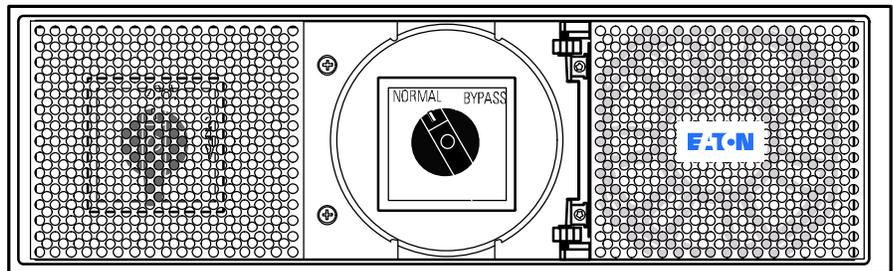

Figure 8. Resetting the Switch to UPS (Normal)
- If the bypass switch is set on Bypass, turn the bypass switch to the UPS (normal) position (see Figure 8). Replace the square center cover and go to Step 5.